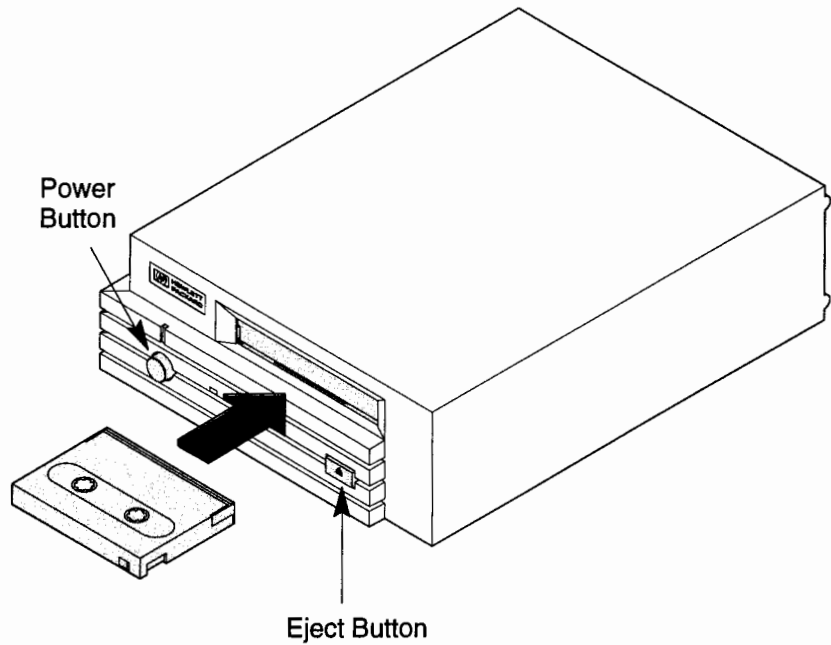

Figure 7-2. Loading and Unloading a Data Cassette
1. Insert the data cassette into the drive, as shown in Figure 7-2.
3. To remove the data cassette, press and release the eject button on the front of the drive, as shown in Figure 7-2. The LEDs on the drive flash on and off. Ten to twenty seconds later, the data cassette slides partway out of the drive. Remove the cassette from the drive.